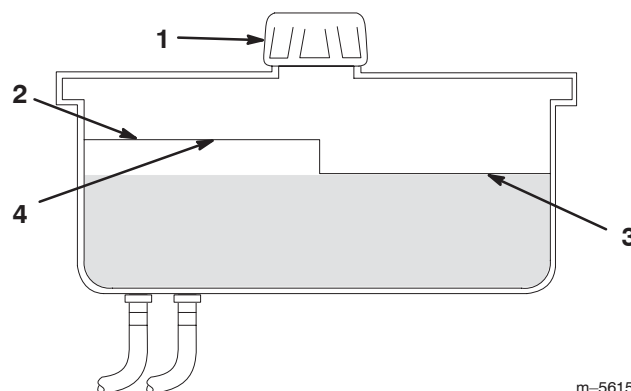

Figure 15
4. Clean area around cap and filler neck of hydraulic tank (Fig. 15).
5. Remove cap from filler neck. Look inside to check if there is fluid in the reservoir. (Fig. 15).
- Note:** The fluid level should be to the top of the **hot** level of the baffle, when the fluid is warm (Fig. 15).